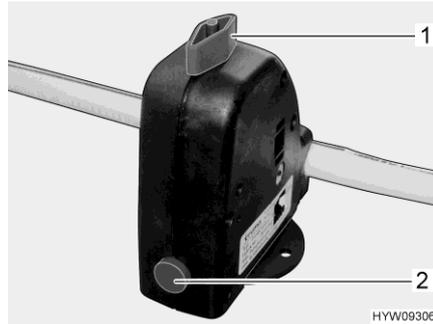

Fig. 97 Safety/drainage valve (Truma)
- Close the safety/drainage valve (Fig. 97). To do so, turn the knob (Fig. 97,1) perpendicular to the safety/drainage valve and push the push button (Fig. 97,2) in. The safety/drainage valve is installed under the bench in front of the heater. If the temperature is below 6 °C, the safety/drainage valve cannot be closed.